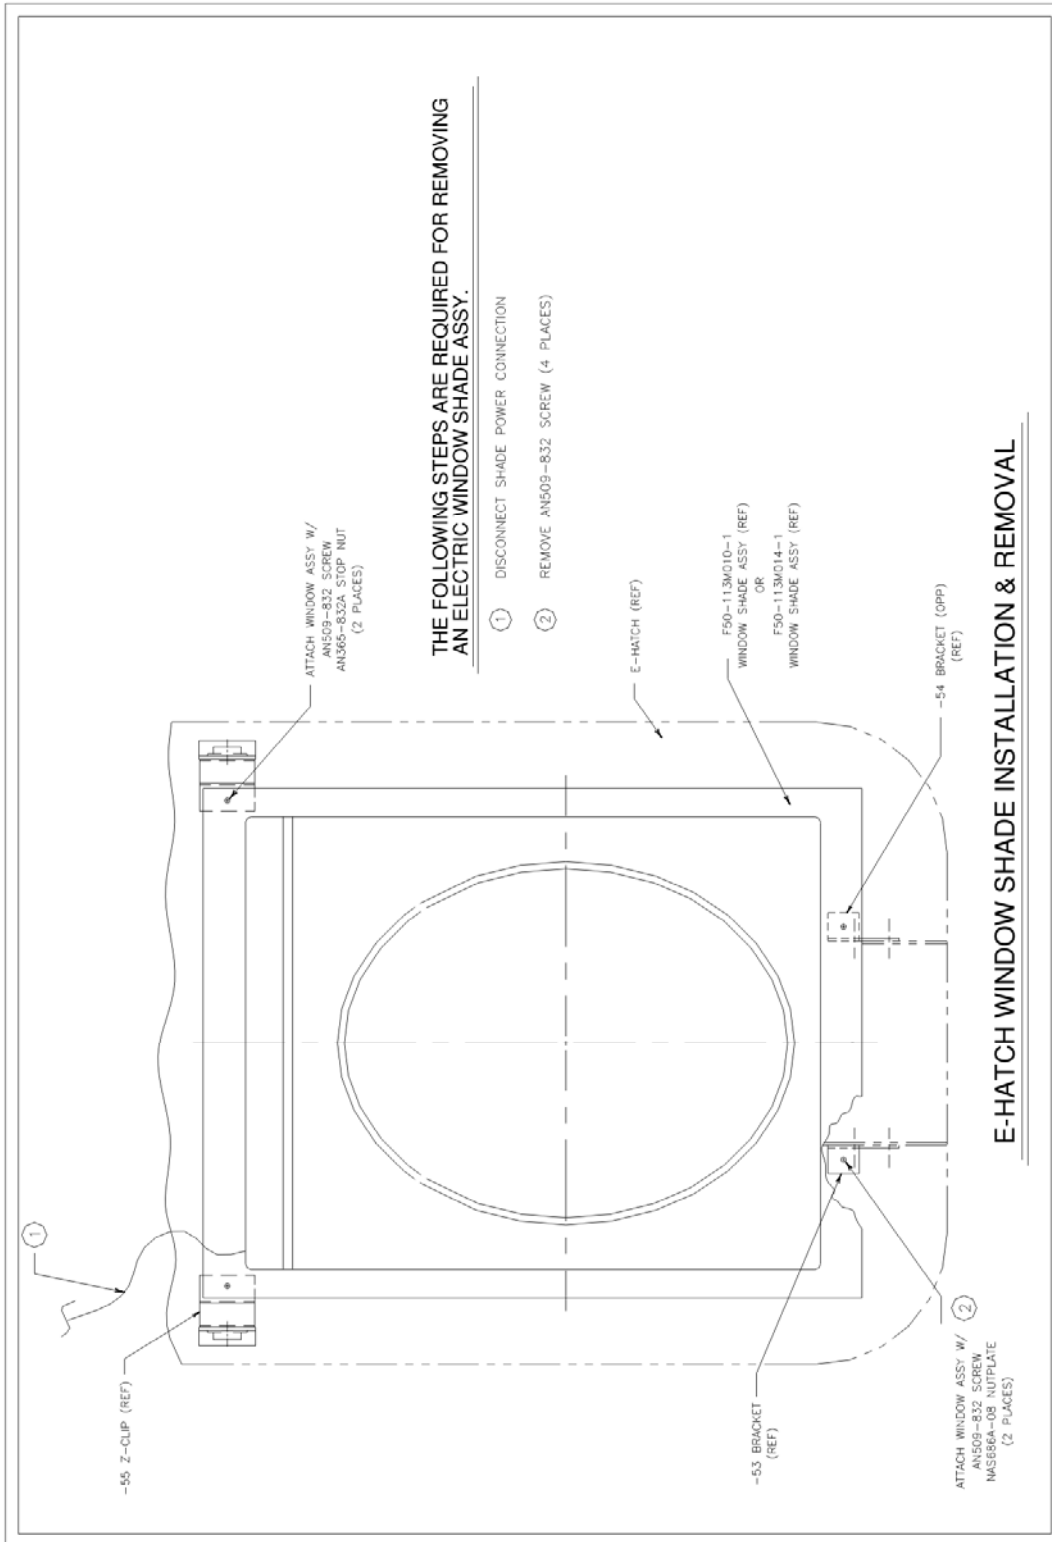

FIGURE 8 GRAPHIC 25-23-03-991-008
7. E-hatch window removal (Refer FIGURE 8/ GRAPHIC 25-23-03-991-008)
A. To remove e-hatch window attachment, refer FIGURE 8/ GRAPHIC 25-23-02-991-008